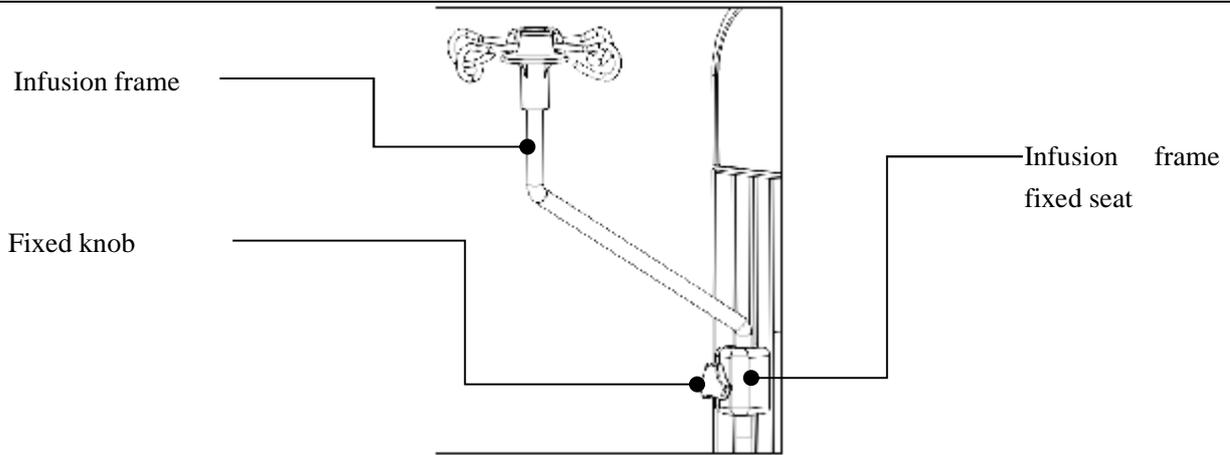

Figure 6
1. Insert the infusion holder into the mounting hole of the infusion holder and tighten the fixing knob (see Figure 6).